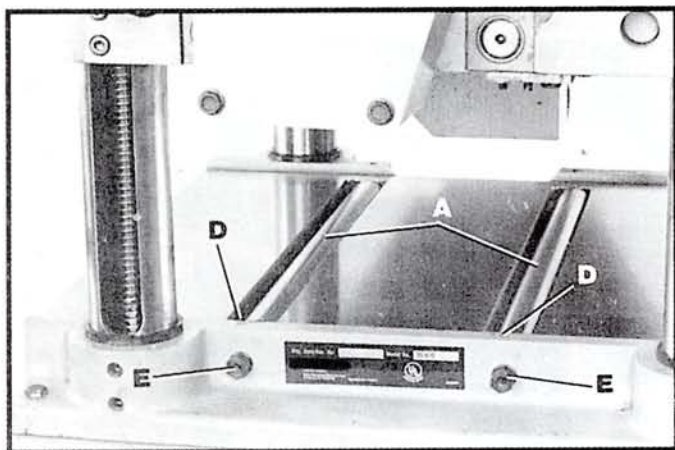
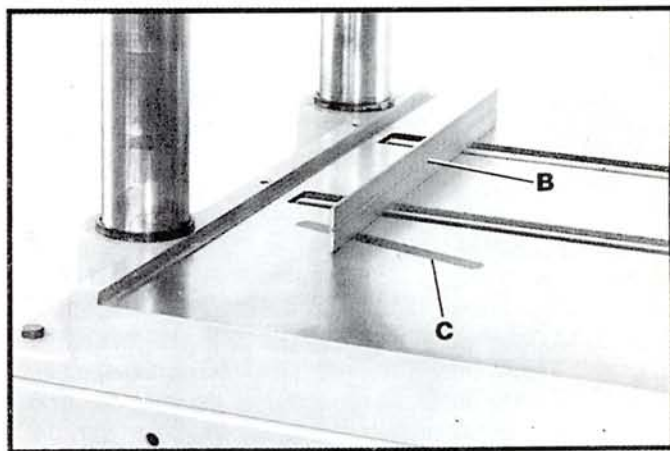

Fig. 43
Fig. 44
Your planer is supplied with two table rolls (A) Fig. 43, which aid in feeding the stock by reducing friction and turn as the stock is fed through the planer. It is not possible to give exact dimensions on the proper height setting of the table rolls because each type of wood behaves differently. As a general rule, however, when planing rough stock the table rolls should be set **HIGH** (0.003" to 0.005") above the table surface and when planing finish stock the table rolls should be set **LOW**, 0.001" above the table surface or level with the table surface.
2. Lay a straight edge (B) Fig. 44, across both rolls and with a feeler gage (C) underneath the straight edge as shown, adjust height of table rolls by loosening set screws (D) Fig. 43, and turn screws (E) to raise or lower table rolls (A). Table rolls must be adjusted on the opposite end of table in the same manner. The table rolls must always be set parallel to the table. **IMPORTANT:** The adjustment screws (E) Fig. 43, on both sides of the planer are on eccentrics and care should be taken when adjusting to keep the rolls from leading the stock to one side or the other. This can be accomplished by turning screws (E) Fig. 43, clockwise to raise or lower the rolls and turning the two screws on the opposite end of the rolls counterclockwise or vice versa.